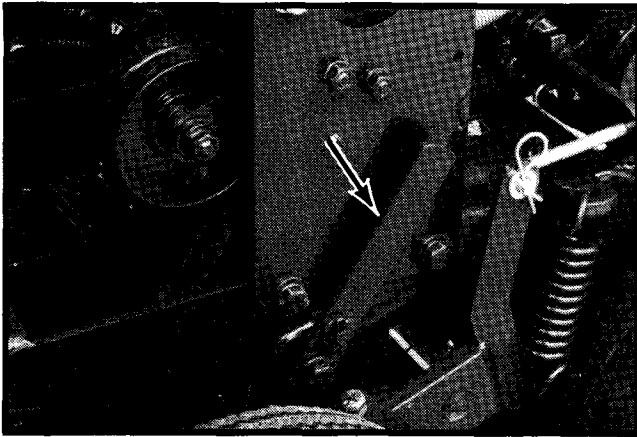

Figure 12. Reel Clamp Lever
3. Release the reel clamps (See Figure 12) on both sides of the unit by pulling the clamp levers back.